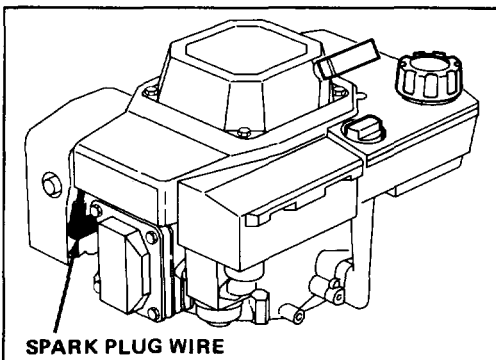

Figure 18
2. Push spark plug wire onto spark plug (Fig. 18).
1. Stop engine and pull wire off spark plug (Fig. 18).
1. Stop engine and wait for engine to cool. Pull wire off spark plug (Fig. 18).
1. Stop engine. Pull wire off spark plug (Fig. 18).